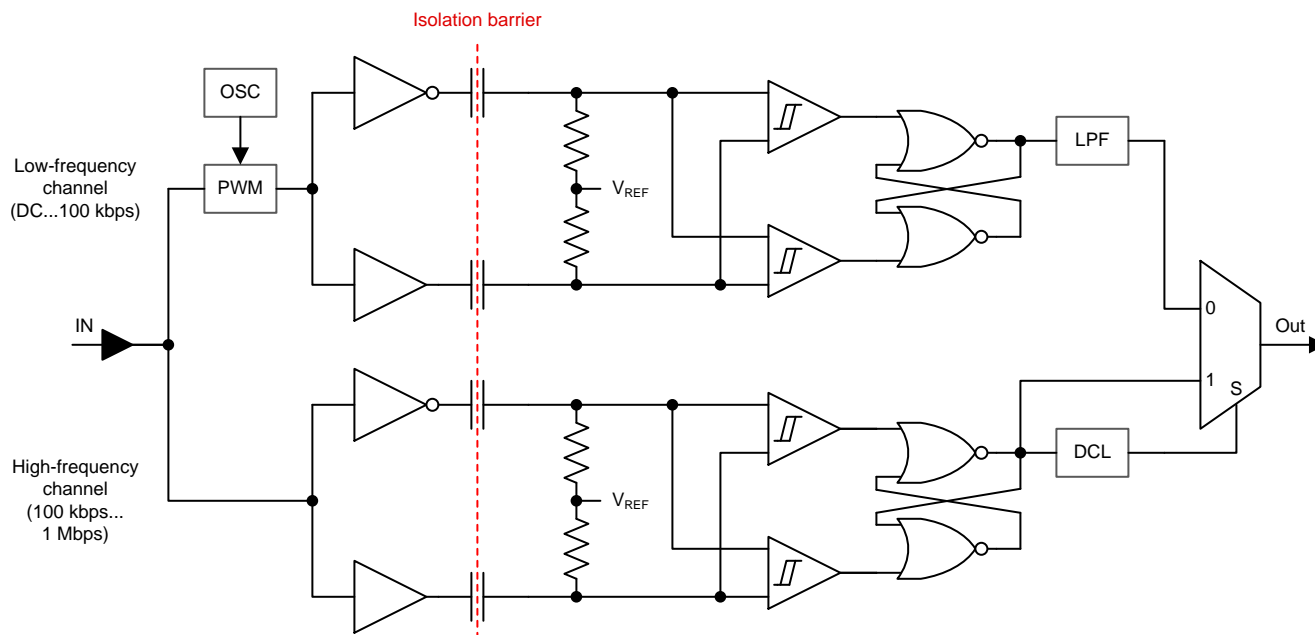

Figure 7. Conceptual Block Diagram of a Digital Capacitive Isolator
The isolator in Figure 7 is based on a capacitive isolation barrier technique. The I/O channel of the device consists of two internal data channels, a high-frequency channel (HF) with a bandwidth from 100 kbps up to 1 Mbps, and a low-frequency channel (LF) covering the range from 100 kbps down to DC. In principle, a single-ended input signal entering the HF-channel is split into a differential signal through the inverter gate at the input. The following capacitor-resistor networks differentiate the signal into transients, which then are converted into differential pulses by two comparators. The comparator outputs drive a NOR-gate flip-flop whose output feeds an output multiplexer. A decision logic (DCL) at the driving output of the flip-flop measures the durations between signal transients. If the duration between two consecutive transients exceeds a certain time limit, (as in the case of a low-frequency signal), the DCL forces the output-multiplexer to switch from the high- to the low frequency channel. Because low-frequency input signals require the internal capacitors to assume prohibitively large values, these signals are pulse-width modulated (PWM) with the carrier frequency of an internal oscillator, thus creating a sufficiently high frequency signal, capable of passing the capacitive barrier. As the input is modulated, a low-pass filter (LPF) is needed to remove the high-frequency carrier from the actual data before passing it on to the output multiplexer.